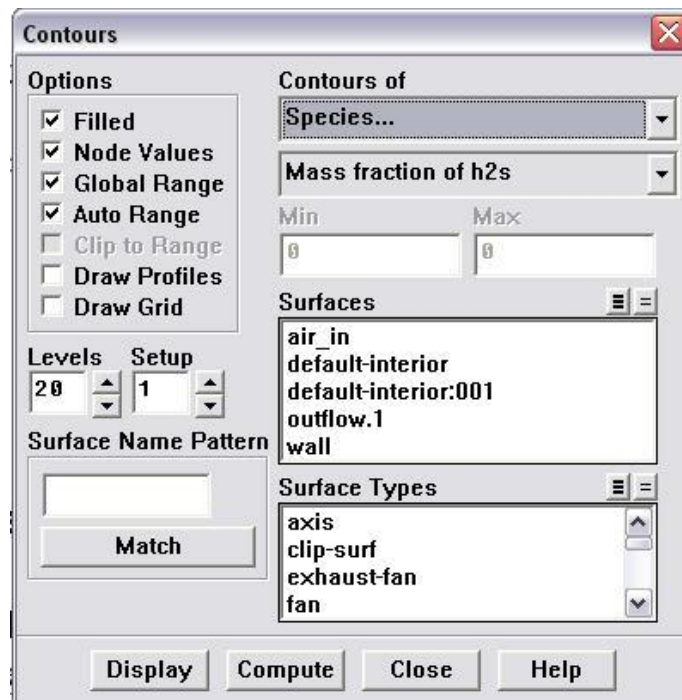

Figure 3.19 The Contour panel
2) In the **Animation Sequence** panel, specify whether you want FLUENT to save the animation sequence frames in memory or on your computer's hard drive. To save the animation sequence in memory, select **In Memory** under **Storage Type**. To save the animation sequence to your computer's hard drive as a graphics meta file, select **Metafile** under **Storage Type**. To save the animation sequence to your computer's hard drive as a pixmap image, select **PPM Image** under **Storage Type**. In this report, we want Fluent displays the odour/gas source concentration during the simulation, therefore, select **Contours** in the **Display Type** then a **Contour** panel will appear (Figure 3.19).